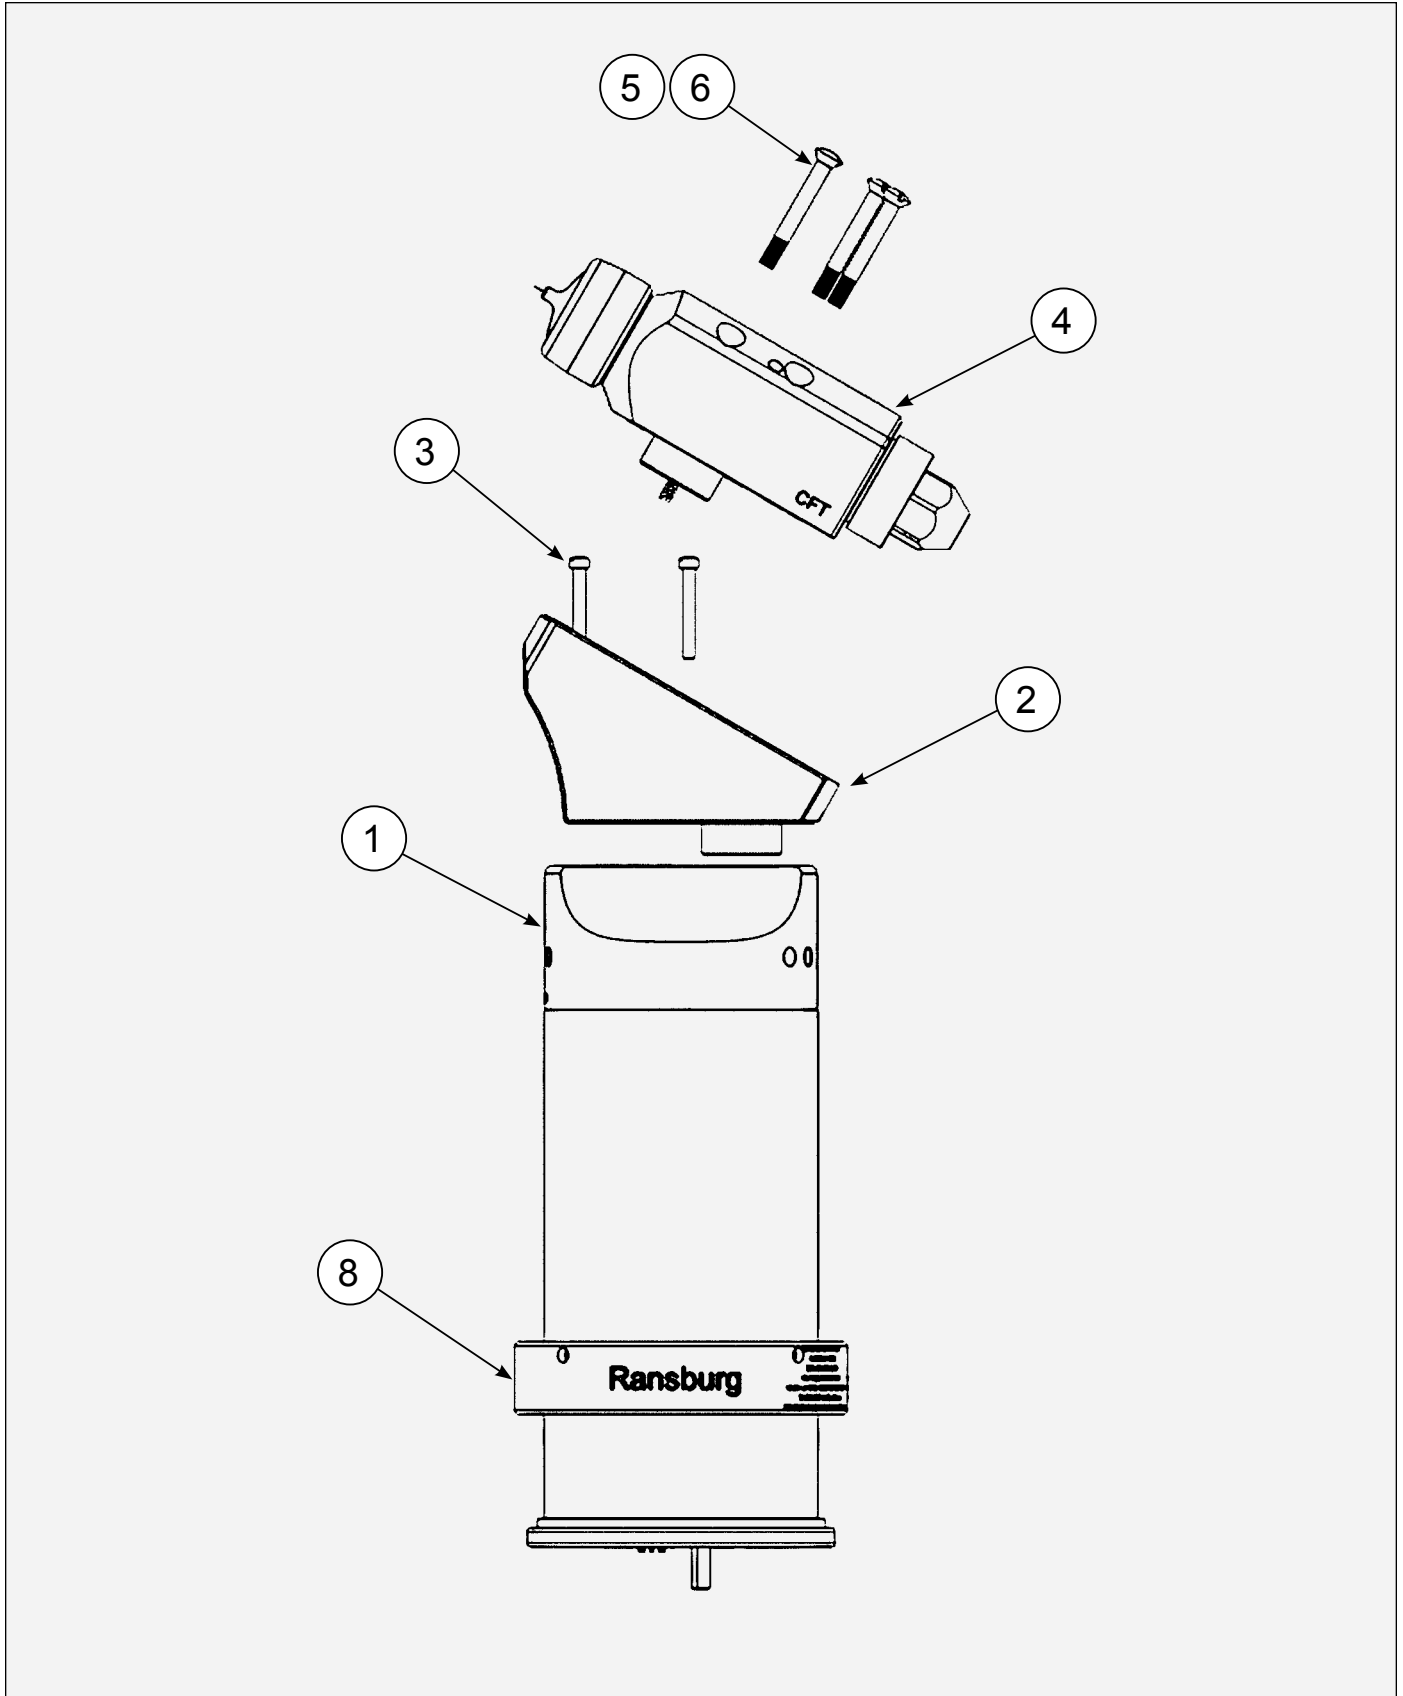

Figure 16: Evolver 500 Series Dual Purge 60° Single Head Applicator Assembly
15. Re-attach spray head to manifold block by aligning the connection plug into the mounting block cavity, and secure with four bolts as shown in **Figure 16**.
**A13758 SPRAY APPLICATOR ASSEMBLY - PARTS LIST (Figure 16)**